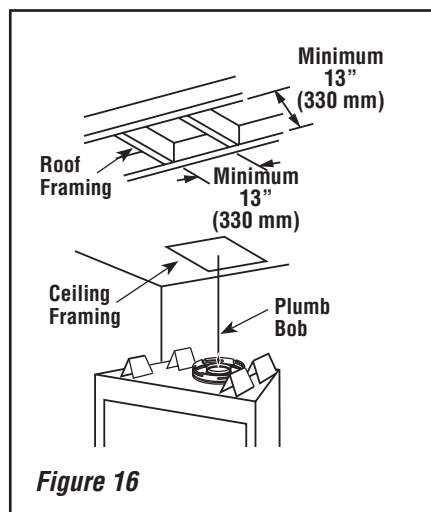

Figure 16
A. Frame ceiling opening—Use a plumb line from the ceiling above the appliance to locate center of the vertical run. Cut and/or frame an opening, 13" x 13" (330 mm x 330 mm) inside dimensions, about this center mark (**Figure 16**).
D. Attach vent components to appliance—To attach a vent component to the appliance collar, align the dimpled end over the collar, adjusting the radial alignment until the four locking dimples are aligned with the inlets of the four incline channels on the collar (refer to **Figure 16 on Page 14**).